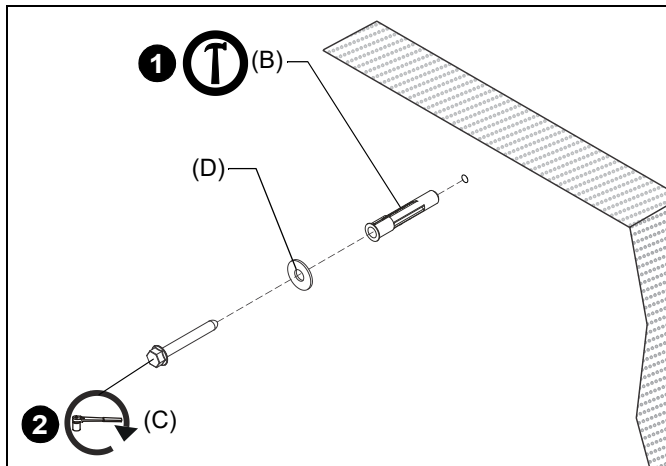

Figure 25
1. Install one UX10X60R anchor (B) into each pilot hole using a hammer, making sure that the anchor is flush with the wall. (See Figure 25)
2. Use one 5/16" x 2-1/2" hex flange head lag bolt (C) and one 5/16" washer (D) through product into each anchor in wall. (See Figure 25)
**NOTE:** 5/16" washers (D) may not be necessary if using adjustment washers (A) to install to wall.